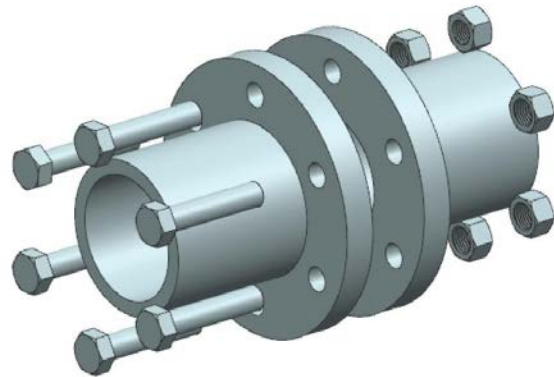

Figure 9-44 The final exploded view of the Flange Coupling assembly
- Create the exploded views of the Flange Coupling assembly, refer to Figure 9-44.
10. Enter **-50** in the **Distance** edit box of the **Auto-explode Components** dialog box and choose the **OK** button; the Flange is exploded. The final exploded view of the Flange Coupling assembly is shown in Figure 9-44.